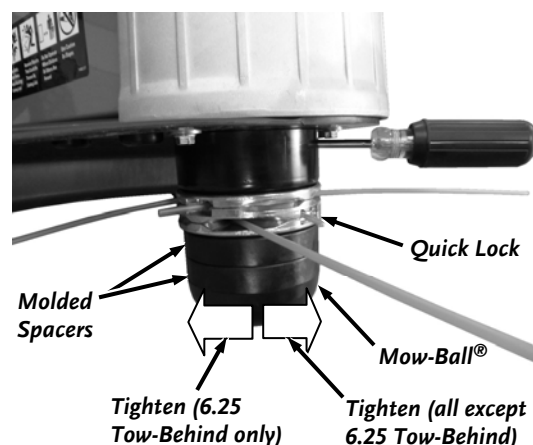

Figure 9
4. **6.25 Tow-Behind Model Only** – Middle Cutting Height Setting: Install one Spacer, the Quick Lock with Adapter hole and Adapter on the bottom of Quick Lock, followed by the second Spacer onto the Shaft (**Figure 9**).
**All models except 6.25 Tow-Behind** – Middle Cutting Height Setting: Install one Spacer, the Quick Lock with Adapter hole and Adapter on top of Quick Lock, followed by the second Spacer onto the Shaft (**Figure 9**).